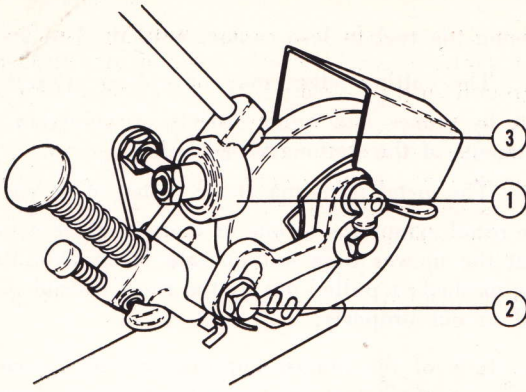

Fig. 5
32. GRINDING WHEEL DRESSER See Fig. 5. (Optional at extra cost). The diamond dresser and holder (1) are mounted on the left hand side of the spreader bolt (2) and is held in place by a large wing nut. The first time this assembly is mounted on the Peerless it must be adjusted to fit. The diamond point dresser (3) must be in line with the middle of the face of the grinding wheel and pointing toward the center of the wheel. Otherwise, the crown of the grinding wheel will be off center. This is accomplished by loosening the two holding nuts on the eye bolt which holds the dresser pivot and adjusting in or out, back and forth, while the dresser holder is centered. The grinding wheel dust guard must be removed before using the dresser assembly. Note: The diamond dresser holder assembly is not standard equipment with the Peerless Sharpener, but is available at extra cost, as some shops have means of dressing down a worn grinding wheel. This unit is not included in the price of the Peerless.